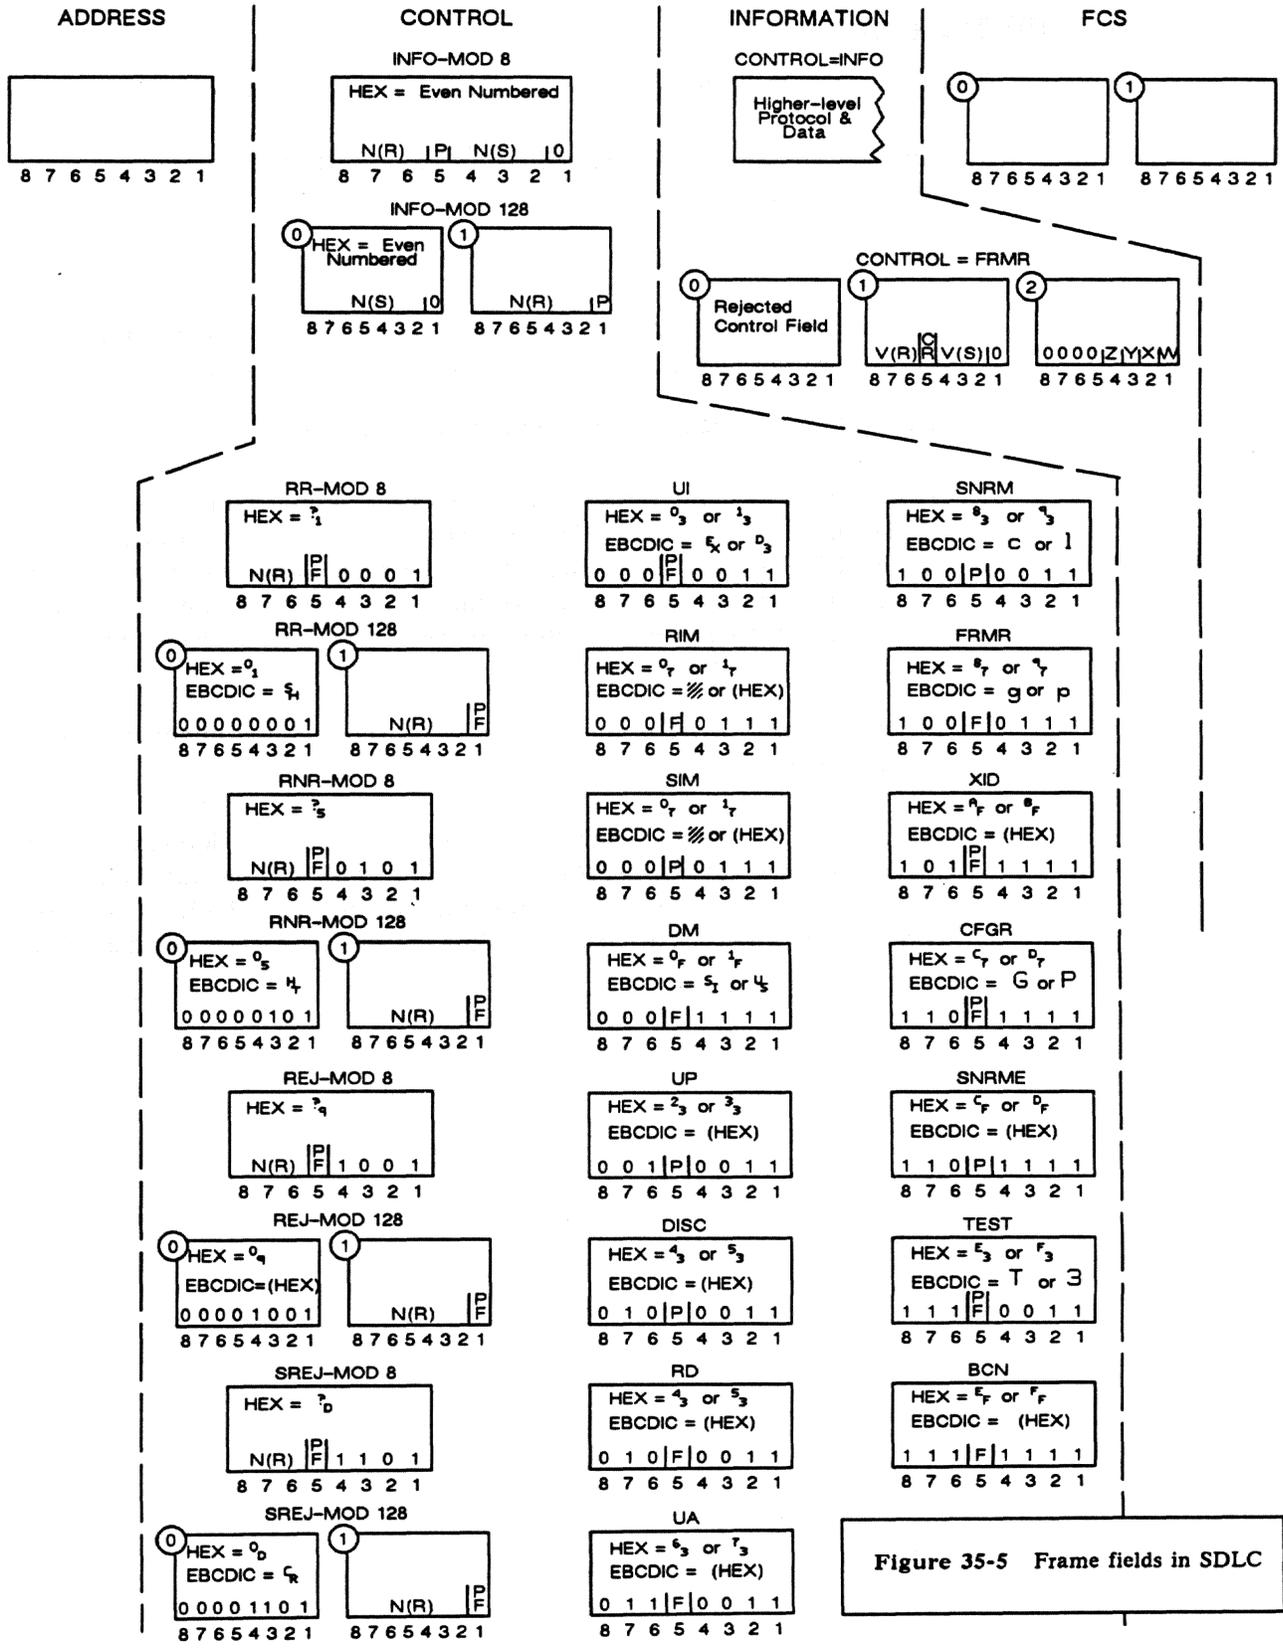

Figure 35-5 Frame fields in SDLC
MOD 8 uses sequence numbers 0-7. MOD 128 adds an extra byte to the control field in INFO, RR, RNR, REJ, and SREJ frames. See Figure 35-5. This extra byte allows sequence numbers in a range of 0-127.
2. *Address.* The address byte (see Figure 35-5) is given in the **ADDR** column, with its two hexadecimal digits presented as full-size alphanumerics.
3. *Type.* The mnemonic (abbreviated) names for twenty frame types as they appear in the **TYPE** column of the protocol trace are shown in Figure 35-5 under "CONTROL." The control field, therefore, indicates the frame type. If a control octet does not fit any of the patterns in the figure, the frame is listed in the **TYPE** column as UNKWN followed by the hexadecimal value of the control byte: UNKWN=3F.
4. *N(R) and N(S).* One column on the frame-level trace is devoted to N(R) values, and one column to N(S). The frame types that include N(R) or N(S) fields in their control fields are indicated in Figure 35-5. N(R) and N(S) occupy three bits each in modulo 8, seven bits each in modulo 128.
5. *P and F.* The status of the poll or the final bit is given in the P/F column. Whether this bit is the P or F bit is indicated for most frame types in Figure 35-5 (under "CONTROL").
1. *Info frames.* INFO frames differ for MOD 8 and MOD 128 numbering schemes. (See Figure 35-5.) For spreadsheet conditions to match I-frames accurately, the correct numbering system (“Mode of Operation”) should be selected on the Frame Level Setup screen.
2. *Supervisory frames.* The four supervisory-frame types that can be searched for on the data leads are RR (Receive Ready), RNR (Receive Not Ready), REJECT, and SREJ (Selective Reject). These frames always contain N(R) fields (see Figure 35-5) and serve mainly to acknowledge or reject INFO frames.